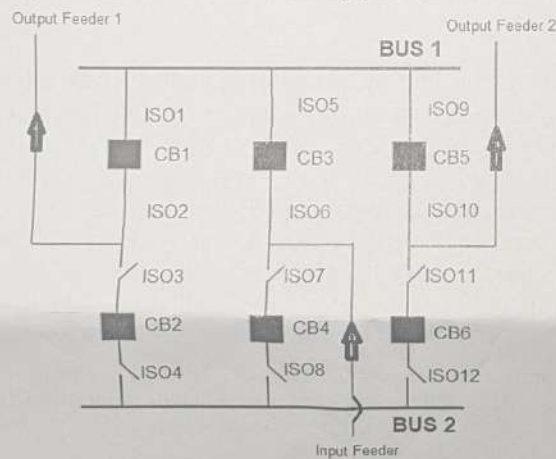

Fig. 1
- As per Fig. 1, Which bus is energized?